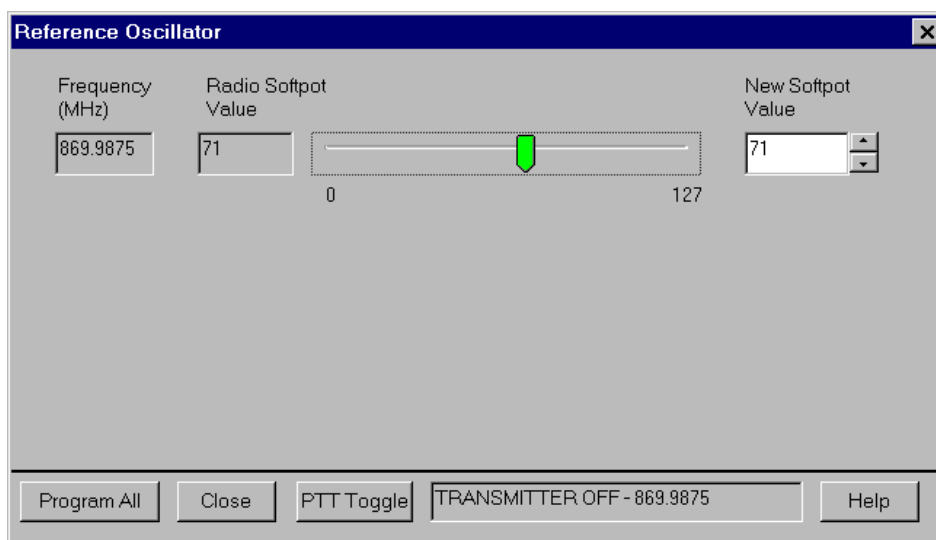

Figure 6-13. Reference Oscillator Alignment Screen
1. Select the **Reference Oscillator** alignment screen. See Figure 6-13.